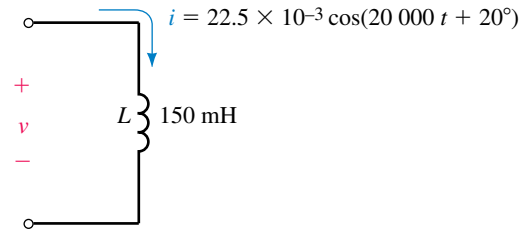

FIGURE 18–86
11. Repeat Problem 5 for the component shown in Figure 18–86.